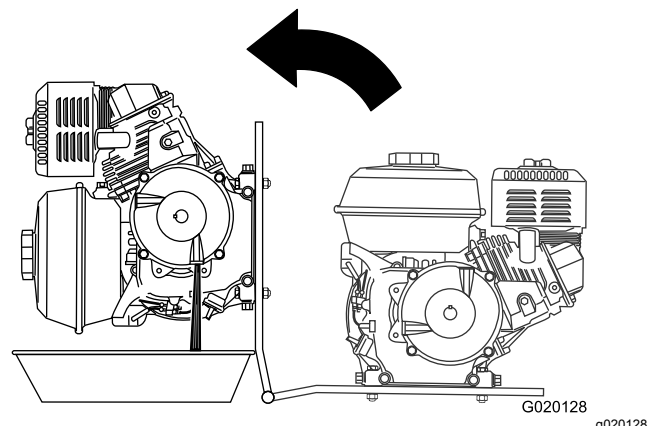

Figure 60
8. Align a drain pan to the hinge of the engine deck (Figure 60).
9. Rotate the engine on the hinge side of the engine deck, and drain the oil from the reduction case (Figure 60).